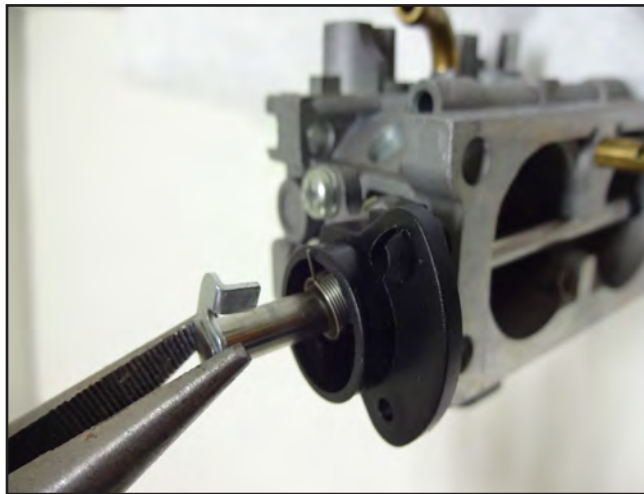

Figure 23
3. Slide the shaft with the spring out of the black override assembly. Remove from the carburetor body (Figure 23).